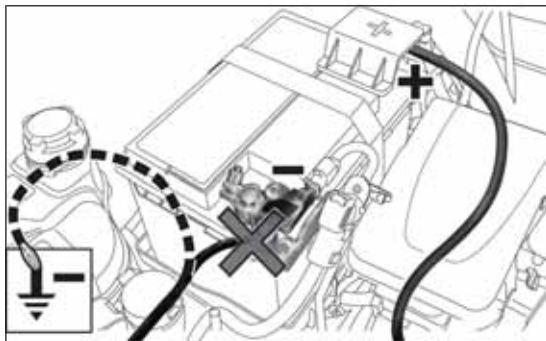

fig. 112
- ❑ connect the positive terminals (+ sign near the terminal) of the two batteries with a jump lead fig. 112;